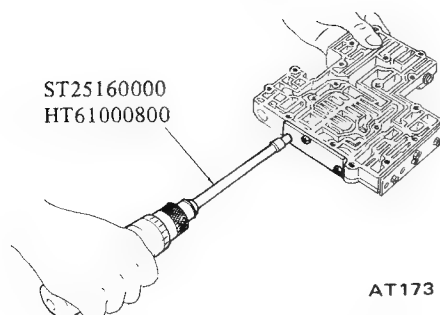

Fig. AT-107 Installing side plate
2. Install side plates using Torque Driver ST25160000. See Figure AT-107.